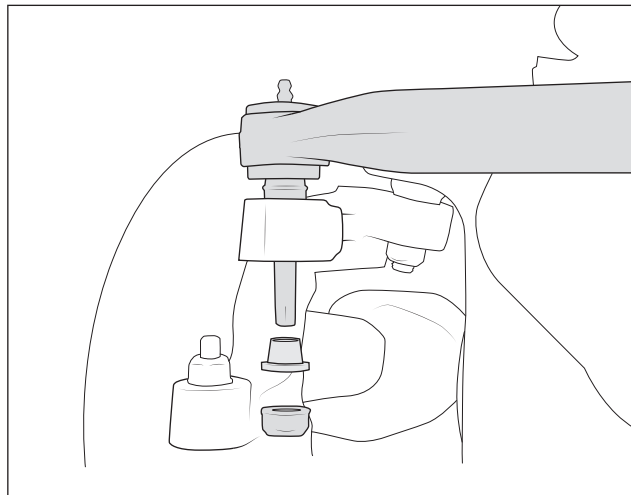

Figure 39
- C. Install new draglink into knuckle. Install tapered insert from bottom side of knuckle and secure with provided nut. Torque nut to **120-130 ft-lb.** (fig. 39).